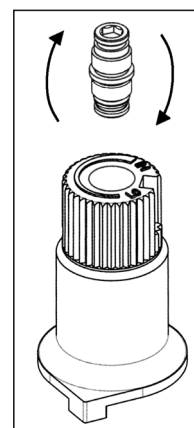

Figure 14: Flip valve screw.
- e) Flip the screw (Figure 14).